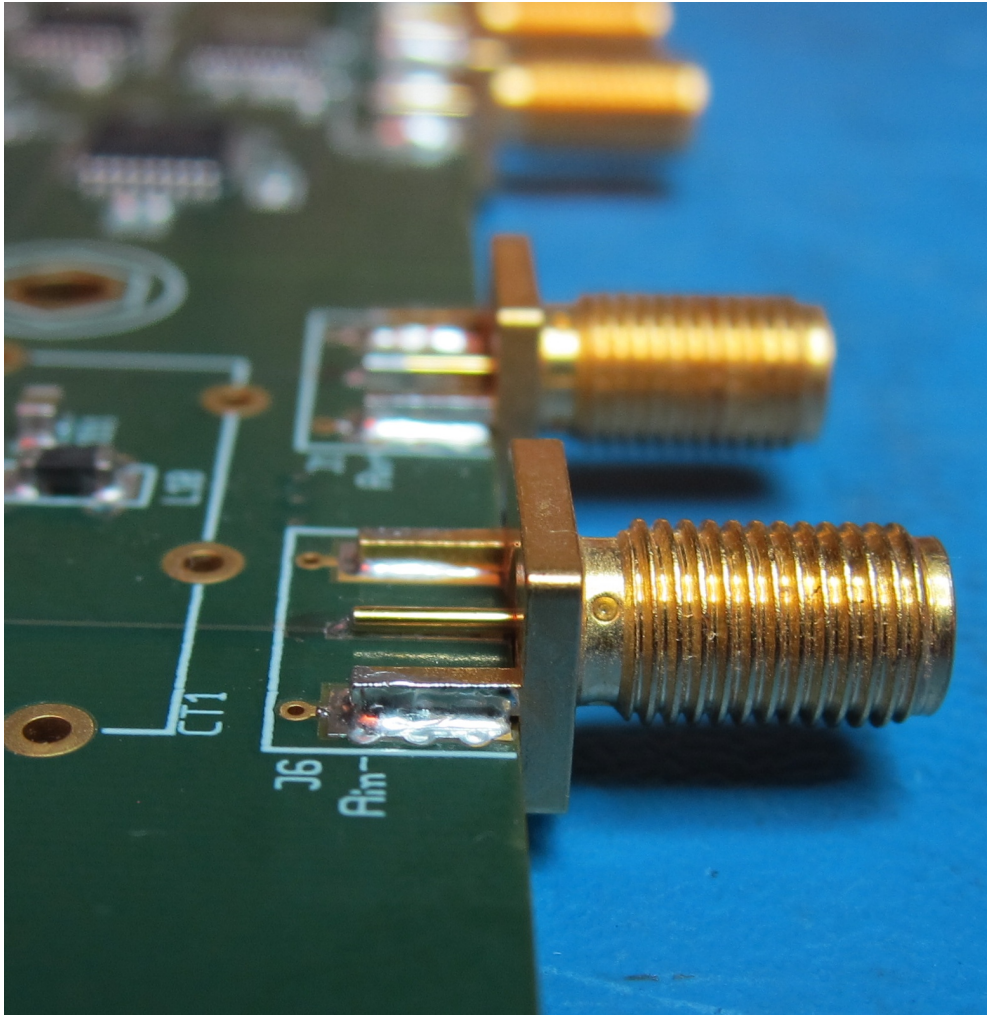

Figure 31: Top side SMA ground pins after solder reflow.
10. Turn to the front side of the PCB and reflow the solder on the ground pins of the SMA connectors as shown in Fig. 31.